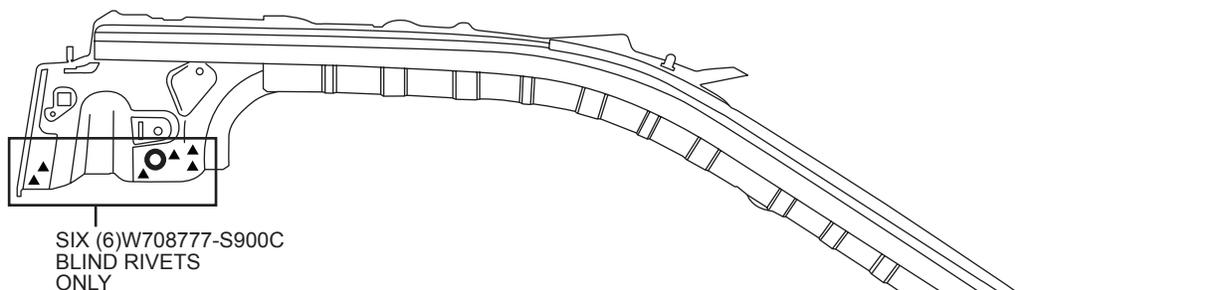

FIGURE 1
- Black triangles represent the location of six (6) rivets (W708777-S900C). (Refer to Figure 1).